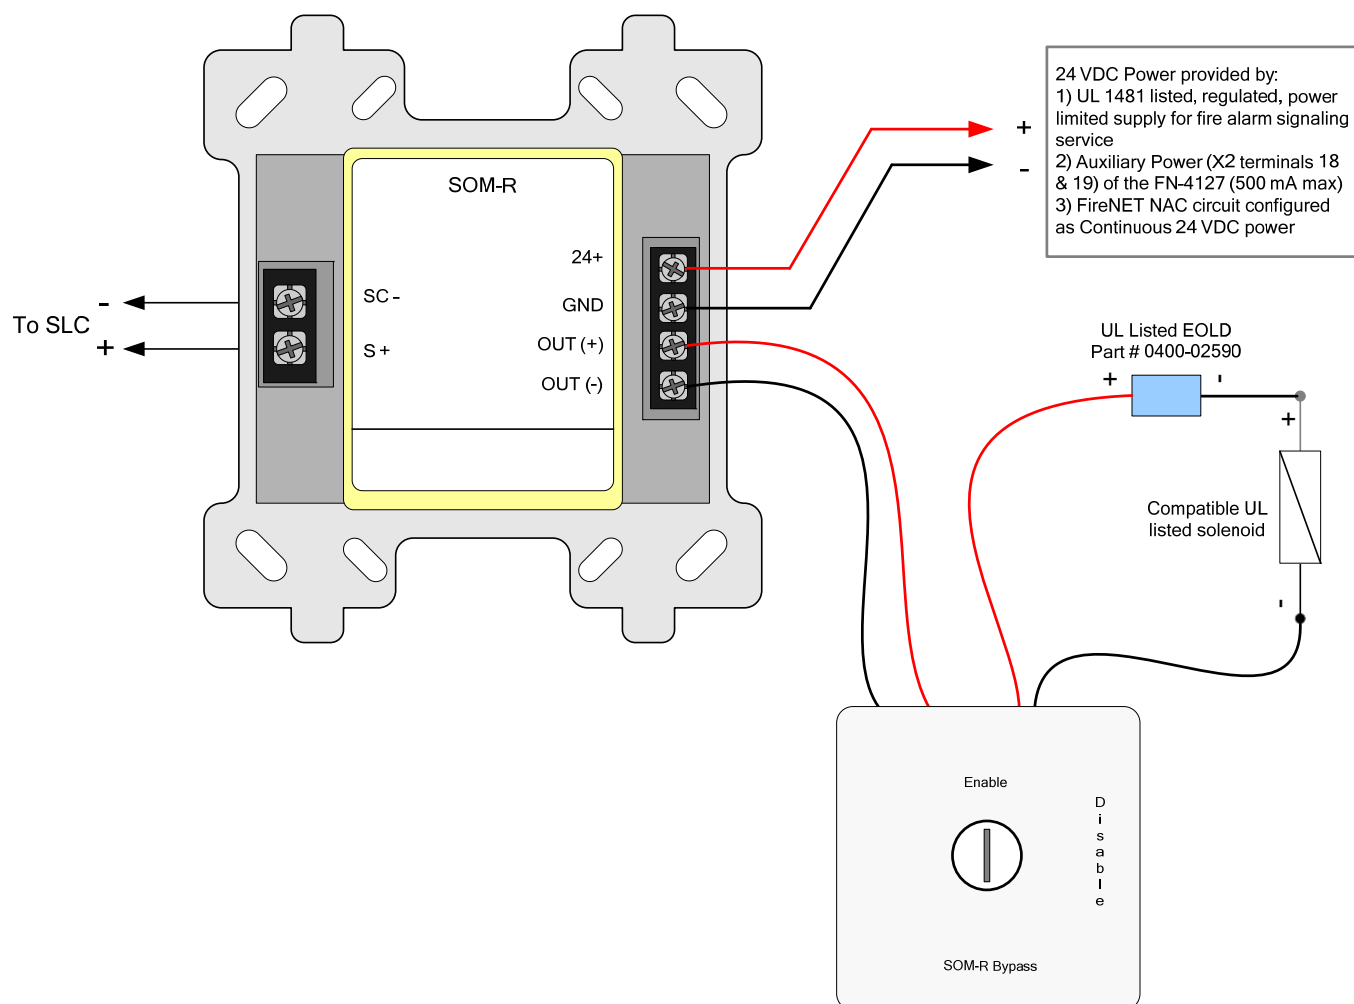

Figure 5.15.1 SOM-R Supervised Output Module Detail
2. The SOM-R must be addressed using the TCH-B100 programmer. Connect the SOM-R to the FireNET Plus SLC as shown in Figure 5.15.1. Refer to the installation instructions (Part # 1700-11320, Rev. 05/10) included with the SOM-R for additional wiring and installation instructions.
6. Connect the output terminals on the keyswitch disable module to the solenoid. Ensure that the EOLD is properly connected to the circuit as shown in Figure 5.15.1 above.